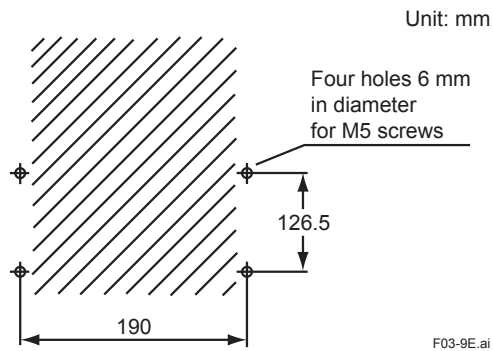

Figure 3.11 Mounting holes
(1) Drill mounting holes through the wall as shown in Figure 3.11.